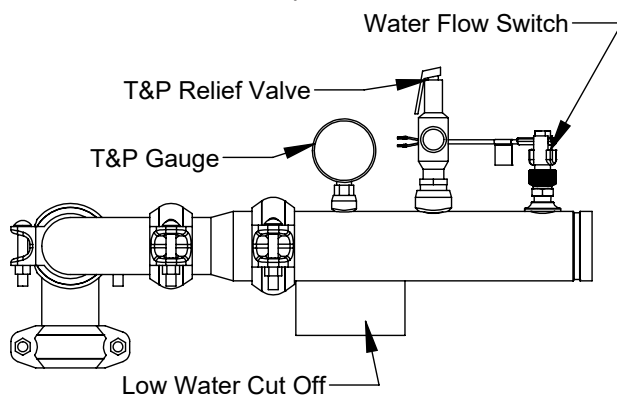

Figure 20: Hot Water Outlet Manifold (BFITW)
2. The hot water supply line shall be connected to the outlet manifold of the appliance shown in Figure 20.
1. A Temperature and Pressure relief valve is included with every BFITW. If the Relief valve is shipped loose, install it to the outlet manifold as shown in Figure 20.